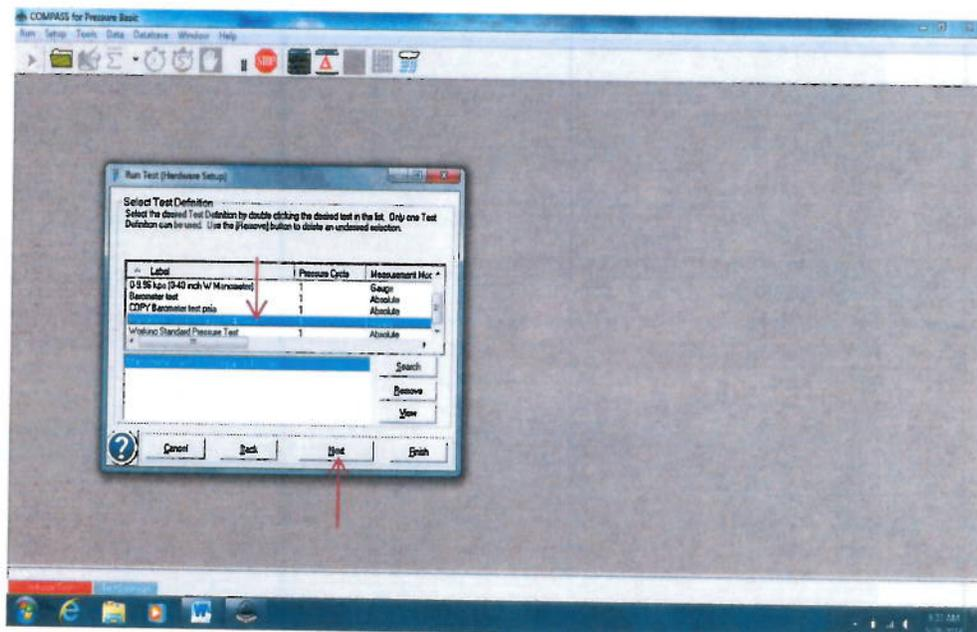

Figure 19
- 11.19 Double-Click on the “Test Definition,” then click on the “Next” button. See Figure 19.